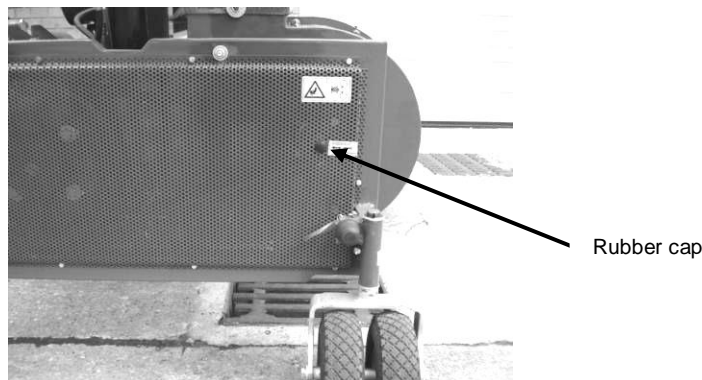

Fig. 64: Bearing bracket lubricating point
1. Remove the rubber cap (see Fig. 64).